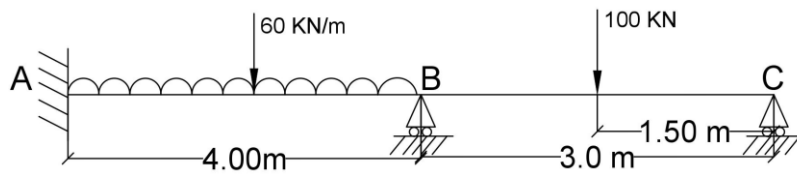

Figure 4.6
6. Analyze the continuous beam shown in figure 4.6 by displacement method. Draw the bending moment diagram. Take EI constant throughout.